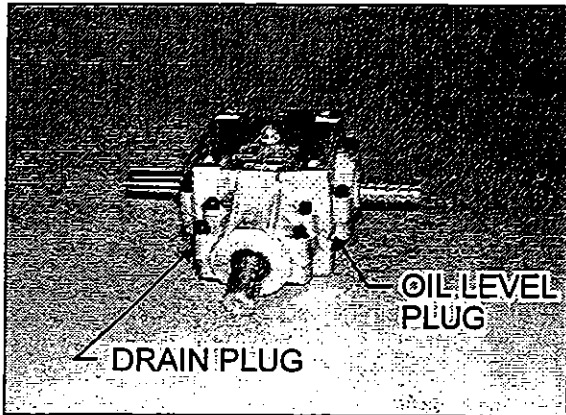

Figure 15: Fan Gearbox
2. Unscrew the air vent tube to permit the air to enter (Fig. 15).